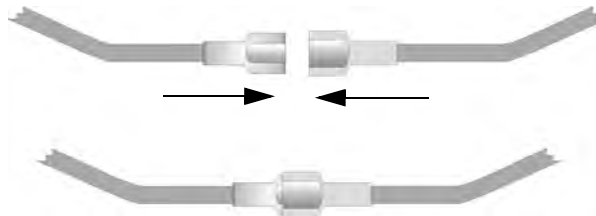

Figure 4.5 Splicing Control panel Battery Cable to RBB or AB-55 Battery Cable Extenders
2. Connect the main control panel battery cables to the battery cable extenders as shown in Figure 4.5.